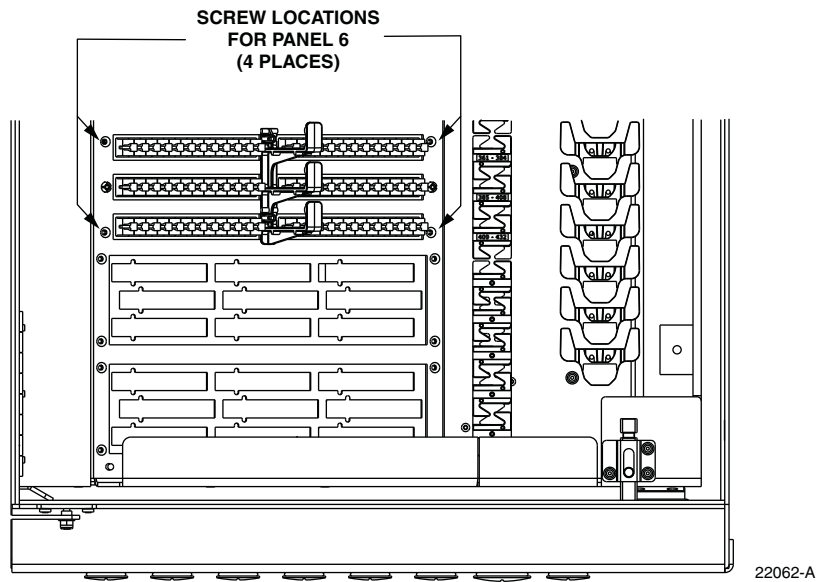

Figure 48. Securing Distribution Panel to Swing Frame
9. Working from the front, use the four screws (provided with panel) to secure the front of the distribution panel to the swing frame as shown in Figure 48.